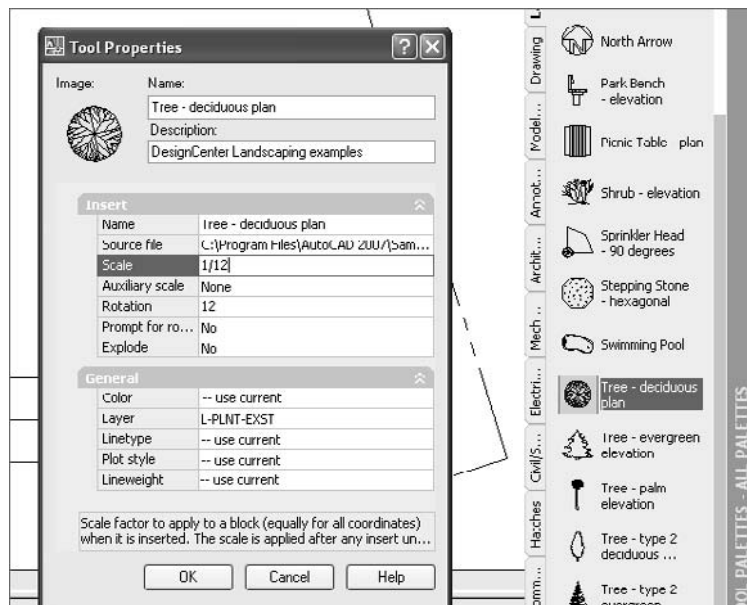

Figure 3.8
2. When the Tool Properties dialog box opens, change the scale, the rotation, and the layer onto which the block is inserted. See Figure 3.8 for an example.